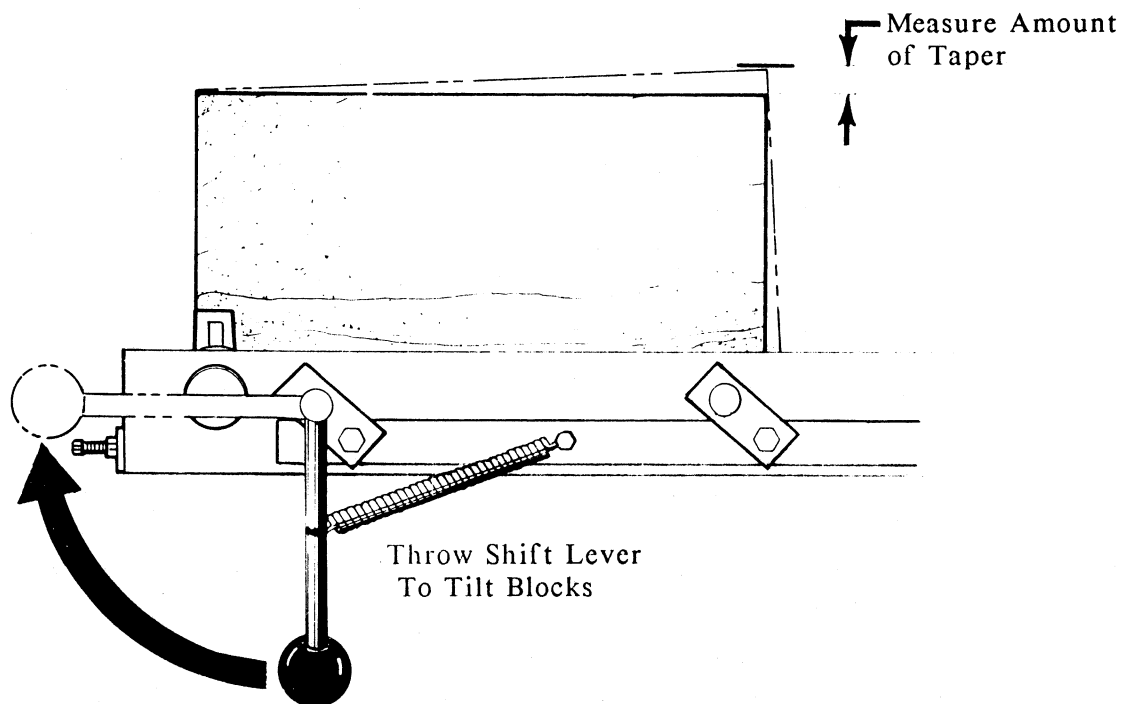

FIGURE 3
3. To adjust the amount of taper on the shingles, push the shift lever down and lower the blade to the top of the back edge of the first block (See Figure 3). Raise the shift lever until it hits the shift adjustment bolt. Measure the amount of drop to determine the taper. Adjust the shift adjustment bolt to change amount of taper (a shorter lever throw produces less taper).